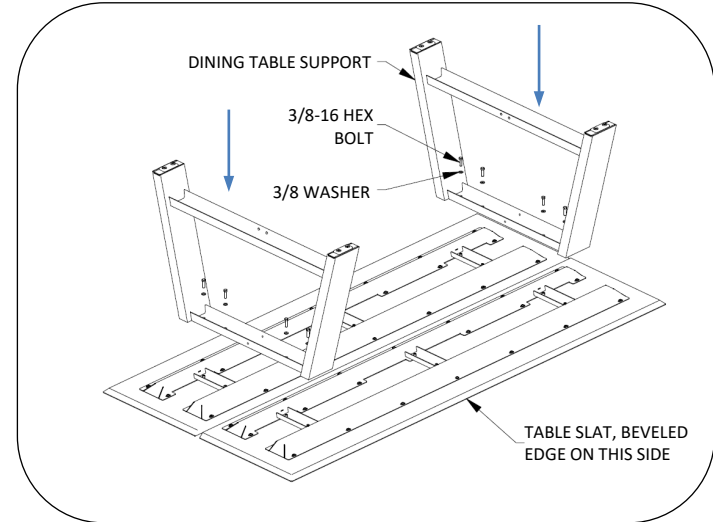

Fig. 1 – attach supports to tabletop slats
3. Install washers and 3/8-16 hex bolts, 4 per support, as shown in Fig. 1. Check that the gap between table slats is even. Adjust supports as necessary.